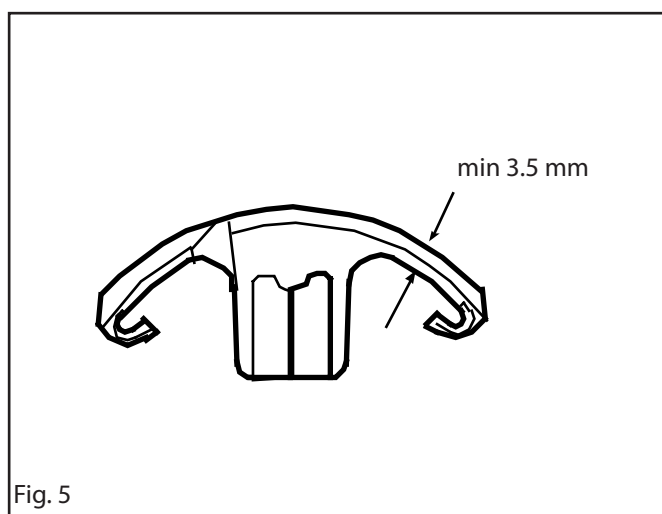

Fig. 5
- Measure the thickness at the most worn point at the clutch shoe. See figure 5.